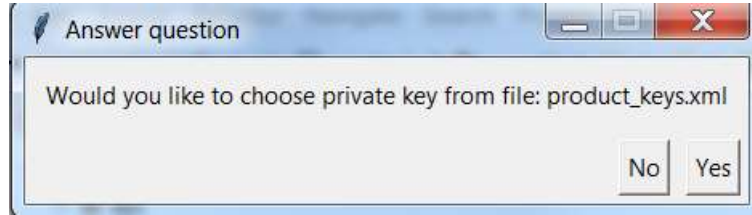

Figure 56: window to select the use of private key
- In this step the user decides to create private key manually (by answering “NO”) or automatically (by answering “YES”) by choosing it from existed *product_keys.xml* file (Figure 56).